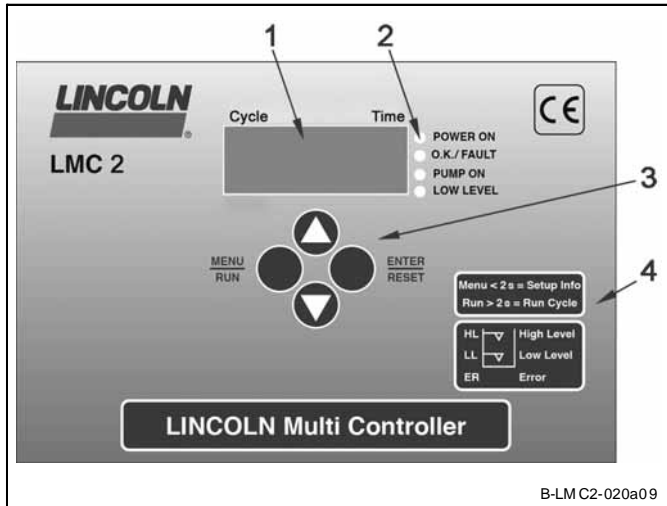
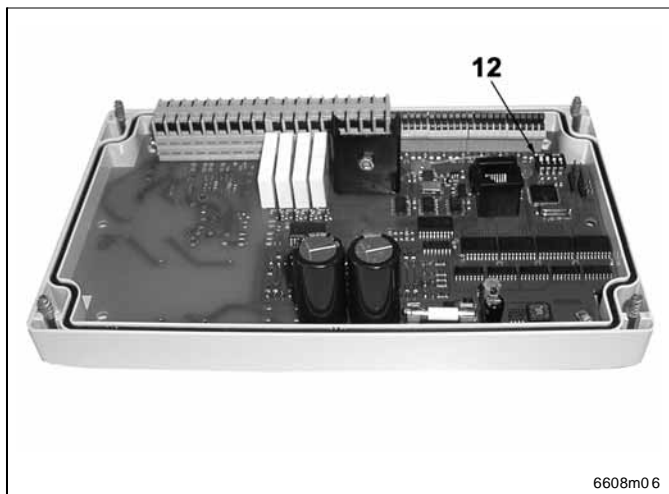

Fig. 1 LMC2 membrane keypad
Fig. 2 The LMC2 control p.c.b. (VDC)
- The lubrication system and presettings for its parameters can be set (UP & DOWN keys, pos. 3, Fig. 1) using the DIP-switches (SW1, SW2, SW3 & SW4, pos. 12, Fig. 2)